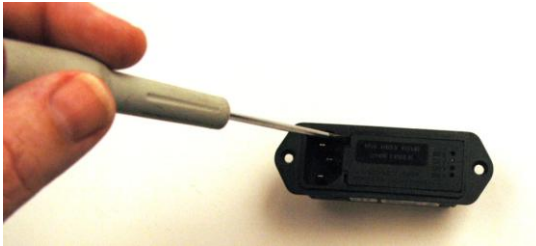

Figure 11
**Step 1:** Gently pry open the panel door using a small flat head screwdriver, as indicated in Figure 11. Insert the screwdriver into both slots in turn until the panel door pops open. The panel door can then be fully-opened by lifting the door at the far end (end furthest away from the 3-pin socket) and allowing the door to hinge.